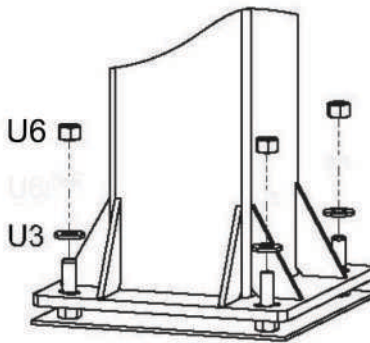

FIGURE 1B
- B. Remove the Padding from Main Post (A). Place the Main Post (A) over the J-Bolts. Slide a 16mm Thick Washer (U3), and thread a 16mm Lock Nut (U6) to each J-bolt. Tighten the Nuts only a few turns onto the J-Bolts as shown in FIGURE 1B.
- C. If the Main Post (A) is not exactly vertical, adjust the 16mm J-Bolt Hex Nuts (U4) located under the Post base. Tighten all of the Hex Nuts (U4) Above Post base when Main Post (A) is vertical.